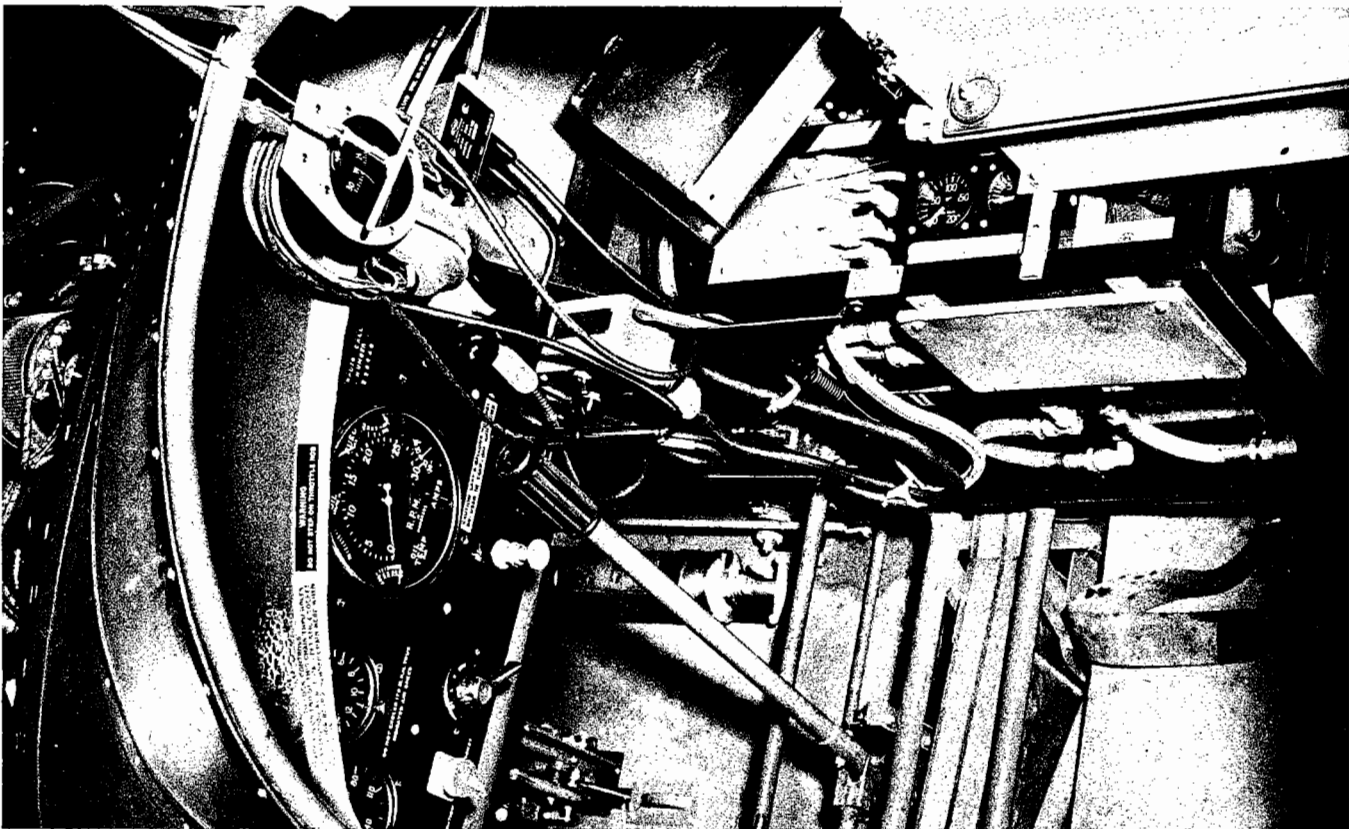

Figure 56—Pilot's Cockpit—PQ-8A
(1) DESCRIPTION. (See figures 56 to 60.)